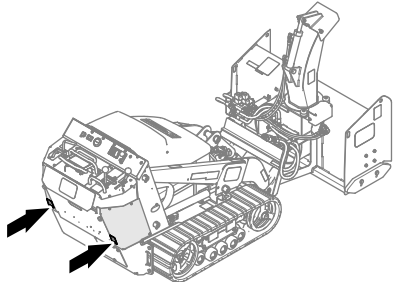
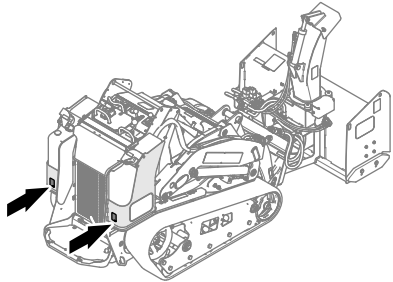
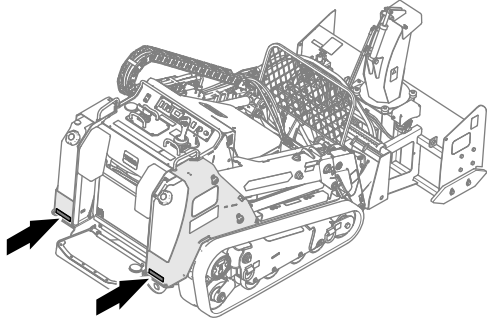

Figure 6
Figure 7
Figure 8
1. Park the machine in a heated area and allow the steel surfaces at the back of the machine (Figure 6) to warm and condensation to dry.
3. Ensure that the decal mount surface (rear-support cover or tank plate) of the machine is warm and dry (Figure 6, Figure 7, and Figure 8).